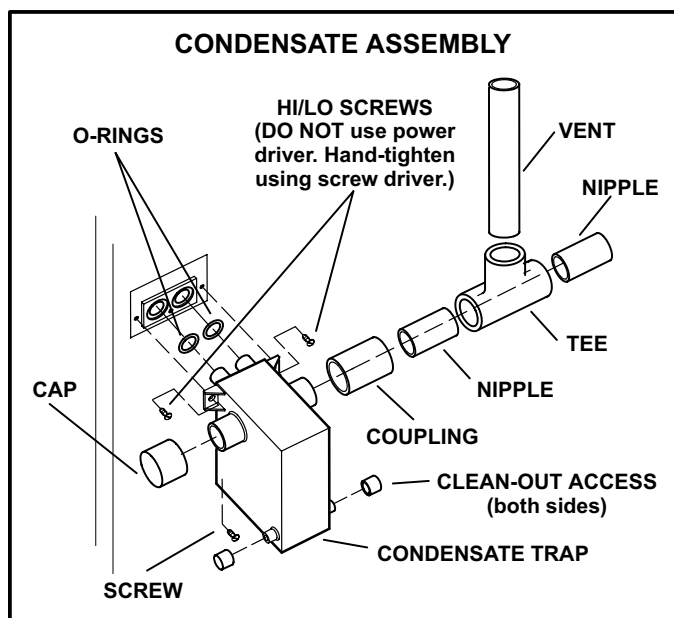

FIGURE 38
- 2 - Install condensate trap onto the condensate collar. Use provided HI/LO screws to secure two upper flanges of the trap to the collar. Use provided sheet metal screw to secure bottom trap flange to side of unit. See figure 38.